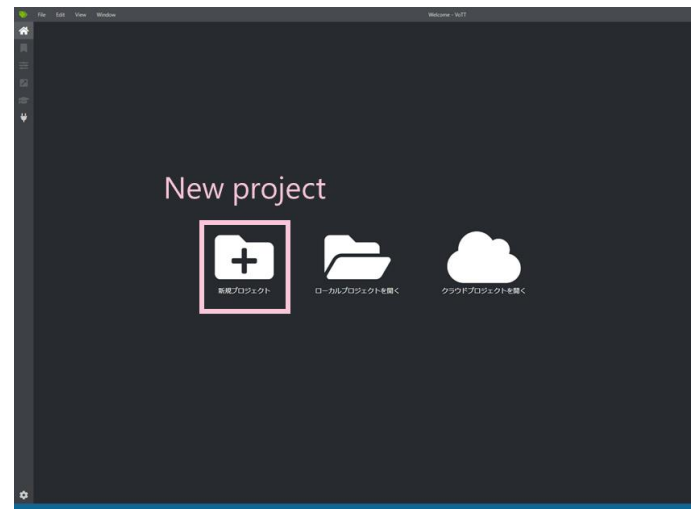

Fig.4.2 VoTT startup screen
- (a) When VoTT is activated, the screen shown in Fig. 4.2 appears. Click New Project.